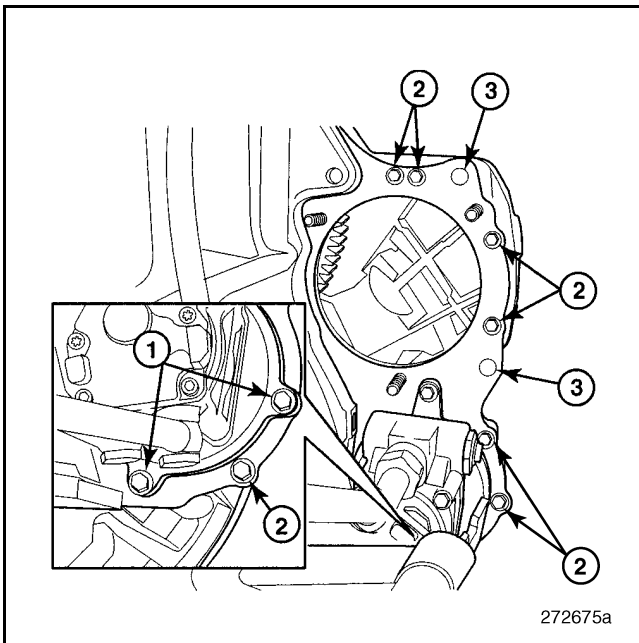

Figure 167 — Timing Gear Plate-to-Flywheel Housing Fasteners
1. Remove the flywheel housing fasteners (item 2 in Figure 167) located at the front of the timing gear plate.